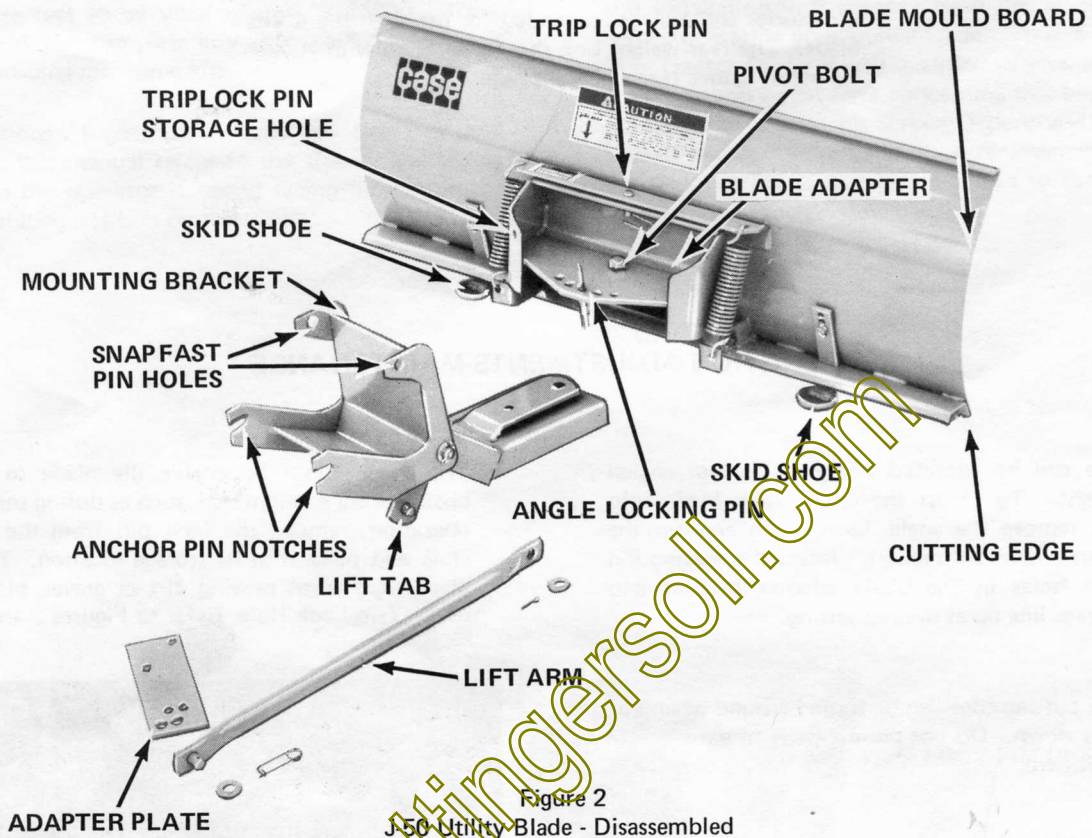

Figure 2
5. Trip Lock Pin - To enable the blade to trip when obstacles are encountered, such as during snow removal operation, remove the lock pin from the Trip Lock Hole and place it in its storage location. To hold the blade rigid when moving dirt or gravel, place this pin in the Trip Lock Hole. Refer to Figures 2 and 4.